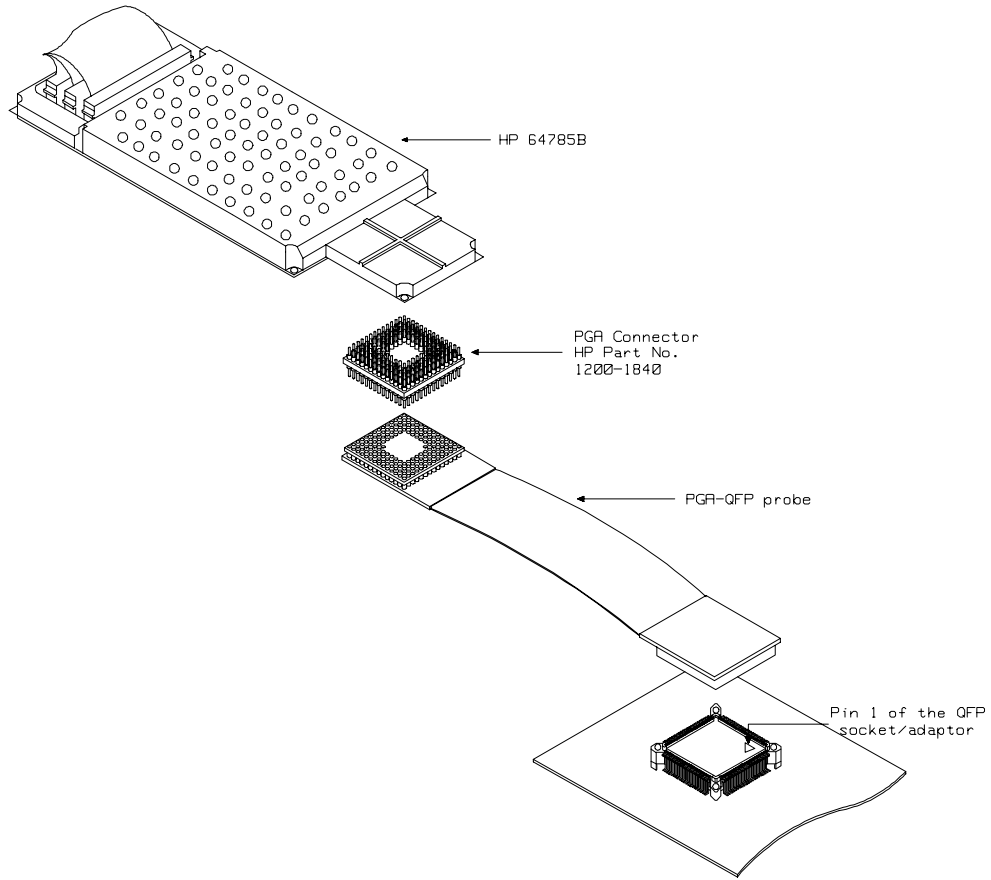

Figure 4-6 Installing into a target system board
3. Power OFF your target system, and install the PGA-QFP probe to the QFP socket/adaptor as shown in Figure 4-6.